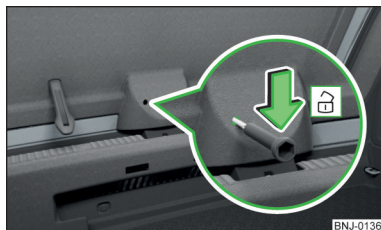

Fig. 174
- › Insert a screwdriver or similar tool into the opening in the trim » Fig. 174 as far as the stop.